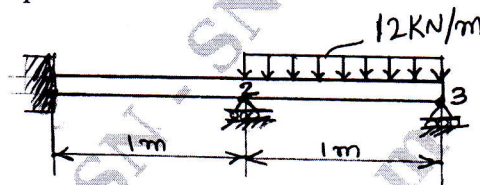

Fig.Q5(b)
- b. For the beam and loading shown in Fig.Q5(b), determine the slopes at 2 and 3 and the vertical deflection at the midpoint of the distributed load. Take  $E = 200$  GPa,  $I = 4 \times 10^6$  mm4.